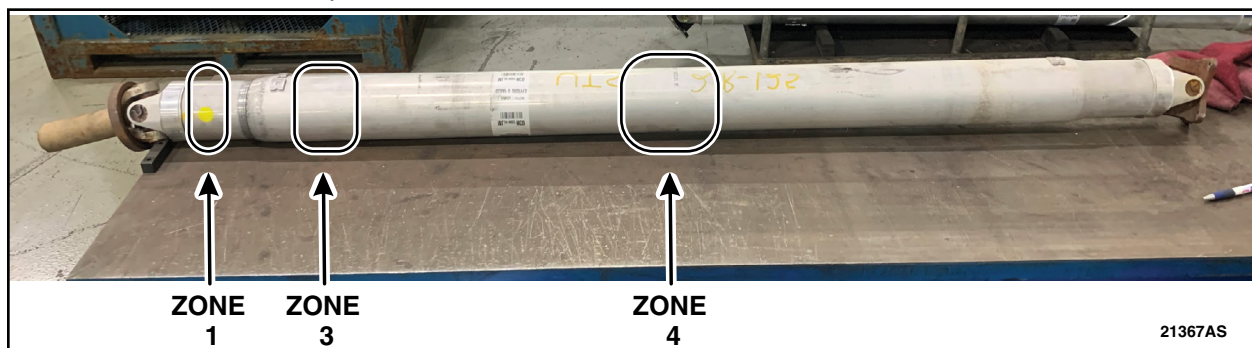

FIGURE 3
2. Inspect Zones 1, 3 and 4 of the rear driveshaft for any marks caused by the front and/or rear edges of the passenger side insulator. Are there any marks present in Zones 1, 3 or 4? See Figure 3.